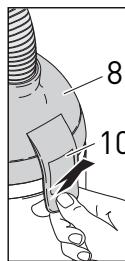
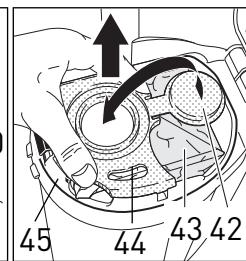

Figure 17
Figure 18
Changing the Filter Bag - Figures 17 & 18
To change the filter bag, set the canister upright, open the bag housing cover (8) by pulling the cover release flap (10) upward (figure 17). Seal the filter bag with the sealing cap (42). Grasp the sealing plate (44) of the filter bag with your thumb and forefinger as shown in figure 18 and lift the filter bag (43) out. Lower a new bag into the holder, making sure that the 4 small tabs (indicated by arrows on the sealing plate) fit into the appropriate grooves. The front tab (45) of the sealing plate will fit loosely over the wire latch lock. Push the bag housing cover (8) down firmly and snap the cover release flap (10) into place. For your convenience, there is a diagram on every filter bag showing the correct placement of the bag. Do not re-use the filter bags. **NOTE: The nature of the contents of the filter bag will affect the point at which it needs changing. Fine dust may require an earlier change even though the bag is not full. Fluff or hair allows air to pass through easily, so the filter bag may overfill before the orange "bag full" indicator displays.**